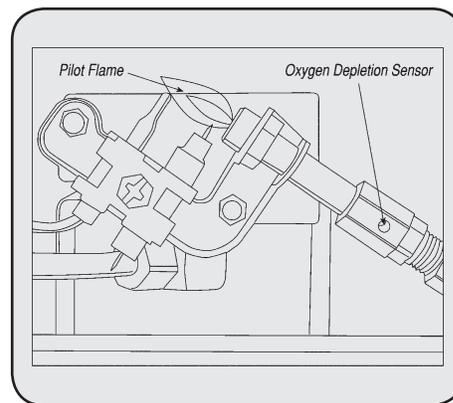

Figure 7
- Visually inspect the pilot flame and burner periodically during use. The pilot flame should be blue in color (not yellow) and will extend to the thermocouple. The flame will surround the thermocouple just below the tip. See Figure 7.
- Remove (4) four screws that secure the rear cover (ref. # 3) to the heater.
- Remove (3) screws attaching lower baffle to expose burner air openings.
- Inspect and clean pilot (mounted to bracket) by using a vacuum or apply air pressure through the holes in the pilot indicated by the arrows in Figure 7.
- Reinstall lower baffle with (3) screws.
- Slide back cover over (2) plastic hooks on top of heater. Make sure rear cover aligns with plastic side covers and reinstall (4) screws to hold in place.